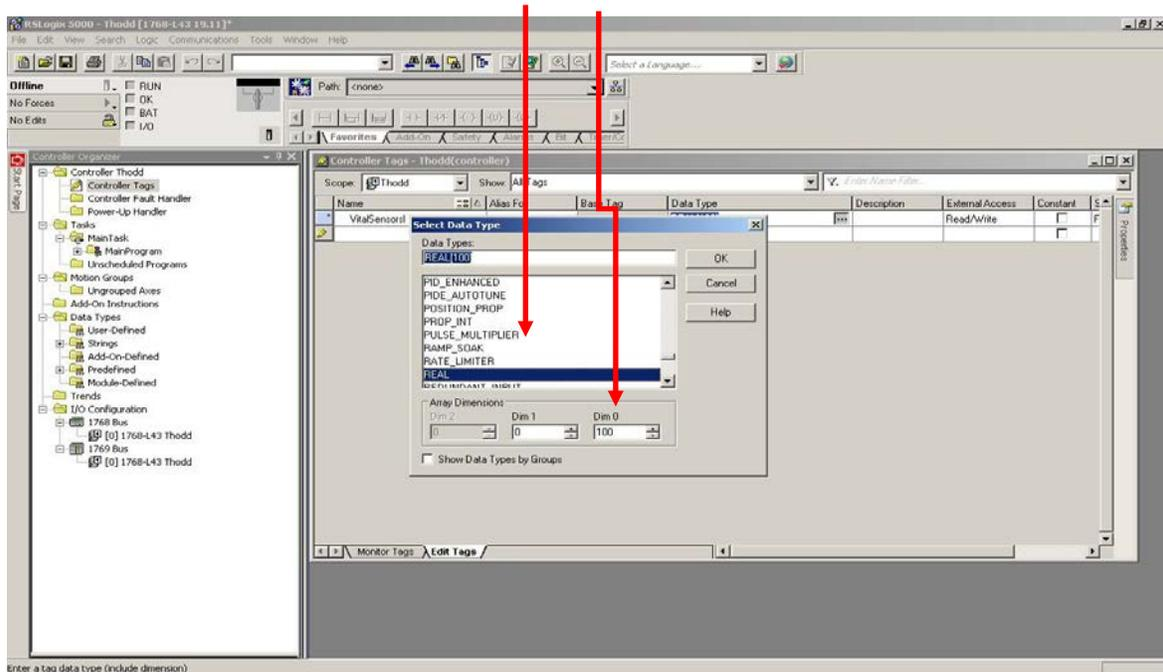

Fig. 8
- Create Tag **VitalSensorsIn** for input REAL, 100 elements. See Fig. 8 below.
8. Create Tag **VitalSensorsOut** for output REAL, 110 elements. See Fig. 8 below.